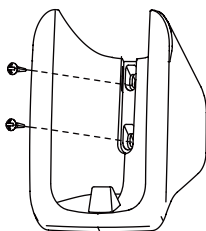

Figure 2.3
1) Use the screws (accessories) to fix and secure the remote controller bracket in a stable position (see Figure 2.3);